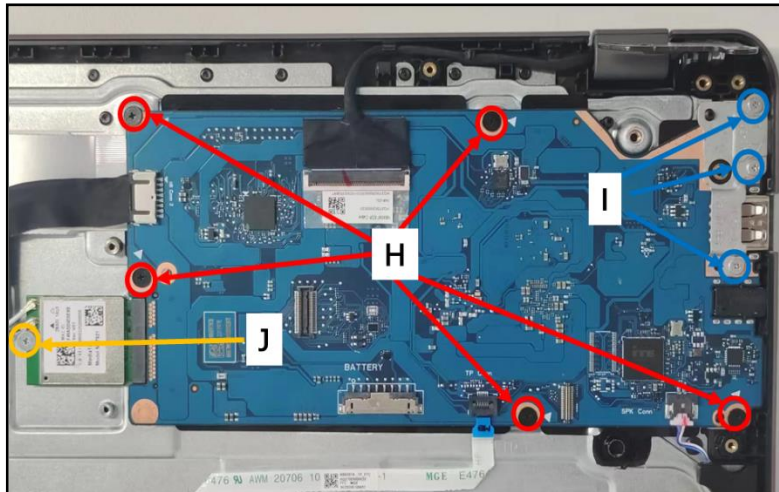

Figure 3-87. Replacing the Mainboard
6. Install seven (5) screws (H) and three (3) screws (I) a to secure the mainboard and I/O bracket in place (Figure 3-87).
7. Install ONE (1) screws (J) to secure the mainboard and WLAN module in place (Figure 3-87).